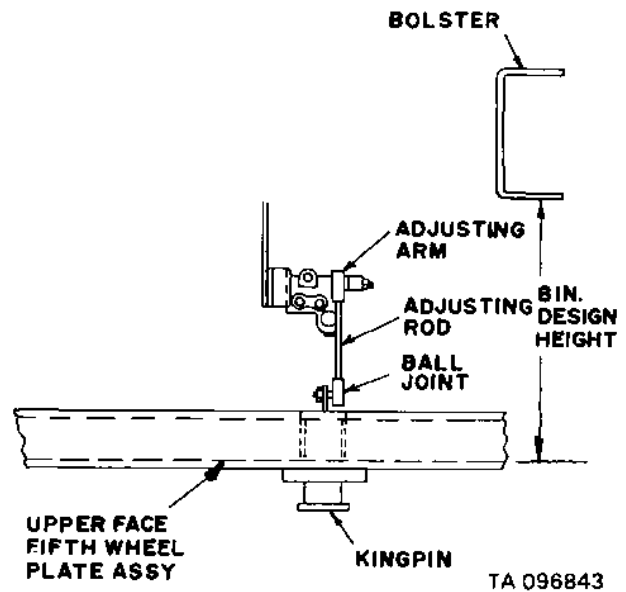

Figure 4-45. Ride height dimension adjustment, air mounted kingpin
(1) Design dimension between bottom of bolster and upper face of fifth wheel plate is 8 inches when fifth wheel plate is in position parallel to the semitrailer frame (fig. 4-45). The design height can vary plus or minus one-eighth of an inch without adverse effect on operation.
(1) Apply 65 psi air pressure to suspension, or block up semitrailer to design height of 8 inches, plus or minus one-eighth of an inch between upper face of fifth wheel plate and bottom of bolster with fifth wheel plate parallel to chassis frame (fig. 4-45)
(2) Remove nuts (8) and screws (9) securing top and bottom shock absorber fittings to mountings.
(3) Remove shock absorber (10).